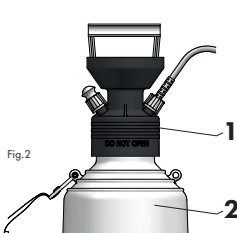

Fig. 2
Do not remove the head (fig. 2/ pos. 1) from the tank (fig. 2/ pos. 2).